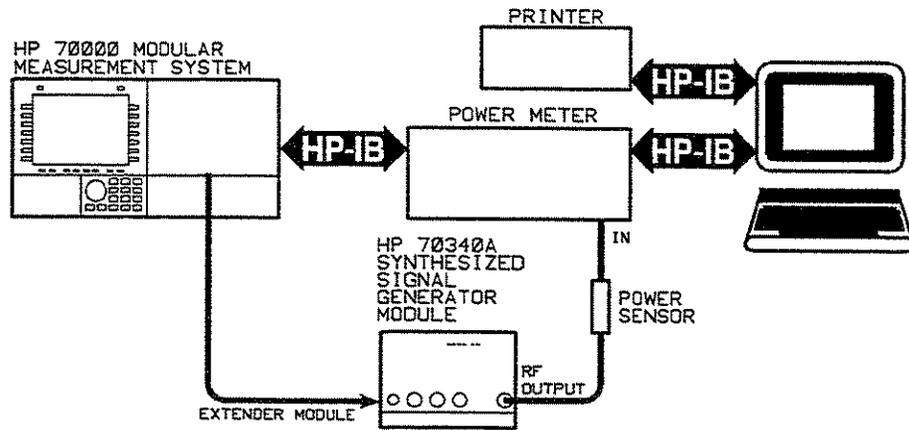

Figure 3-3. Vernier Calibration Equipment Setup
2. Set up the equipment as shown in Figure 3-3.